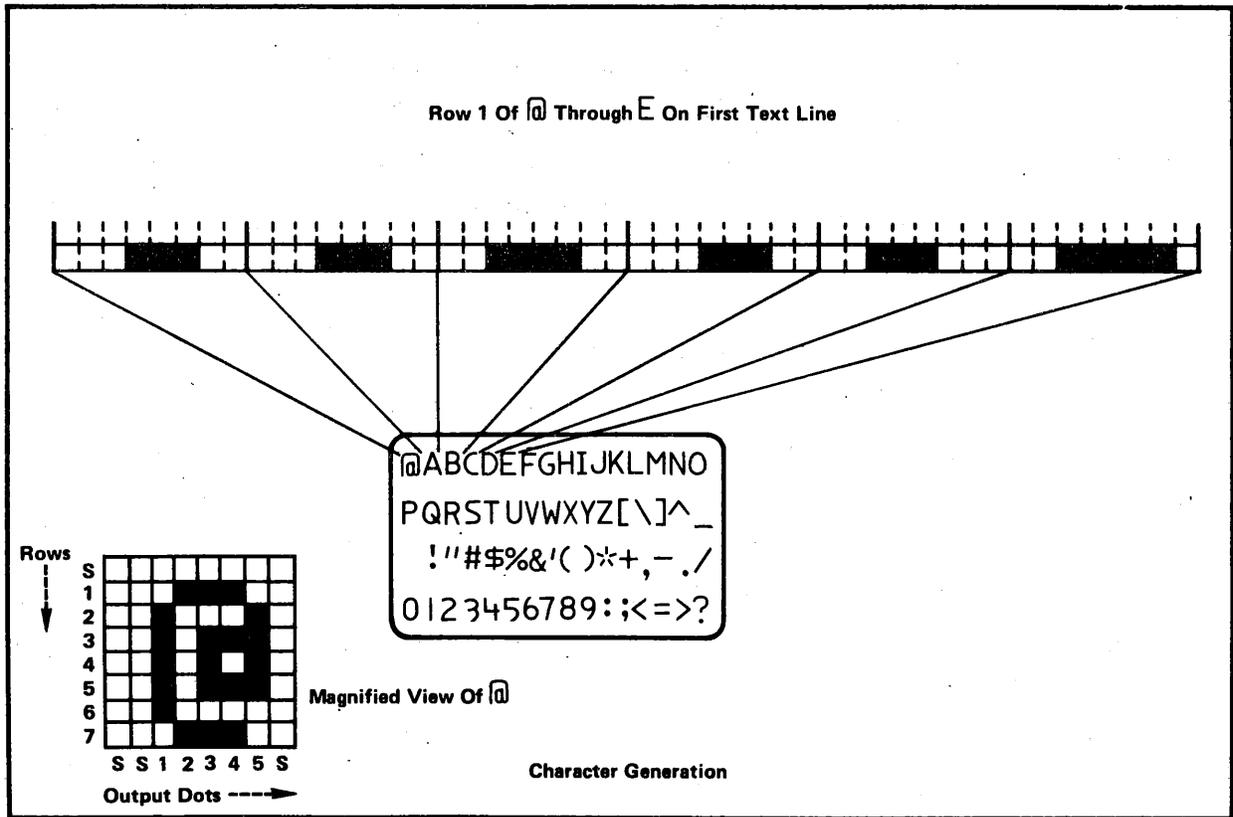

Figure 3-5. Character Generation
3.21 The ROM is set up and then, as shown in figure 3-5, sends out five dots (or lack of dots) representing the top row of the first character. In a continuous stream that is stepped out of the ROM and through the parallel to serial converter, then the top row of the second character, third, fourth, etc., until all sixteen character positions of the first text line are out. A counter advances by one and the same row repeats itself. This counter advances so that the row of dots is repeated on four horizontal traces. Then another counter advances permitting the second row to be output four times.